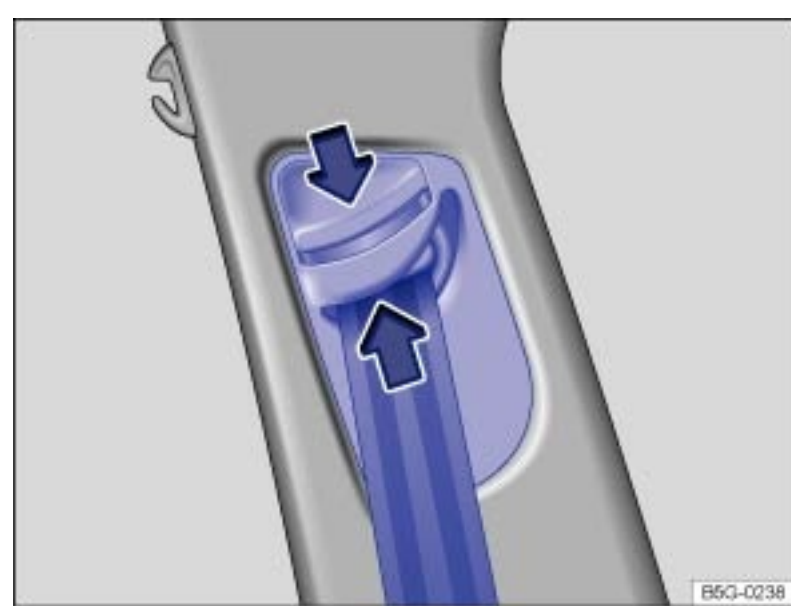

Fig. 64 Next to the front seats: Safety belt height adjuster.
- Pinch the safety belt attachment together as indicated by the arrows and hold → Fig. 64.